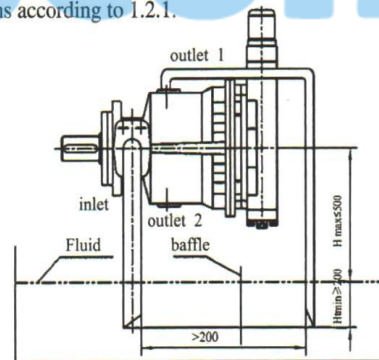

Fig. 4
b) If the minimum fluid level is equal to or below the top of the pump, pipe ports "outlet 1" and possibly "inlet" as Fig. 4.; close port "outlet 2".
a) When mounting above the reservoir, see Fig. 4.